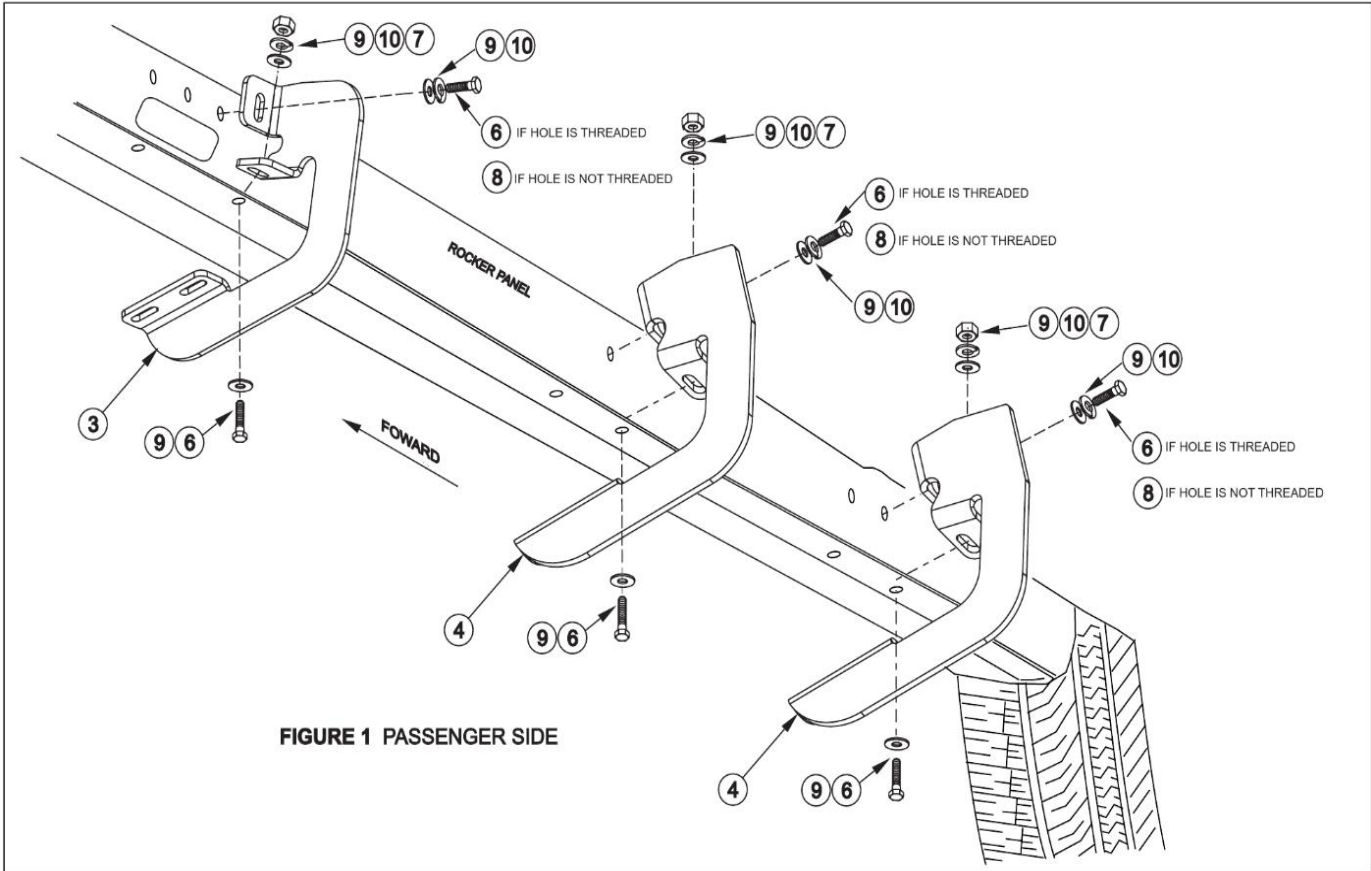

FIGURE 1 PASSENGER SIDE
3. Attach brackets to underside of body panel as shown. Leave loose. **SEE FIG 1.**